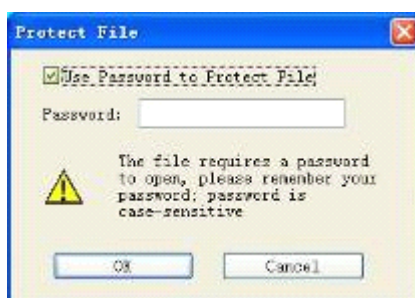

Figure 7-7 Dialog box of file protection
- ◆ Double click the option “Protect File” in “Project Manager” to pop up a dialog box as shown in figure 7-7.